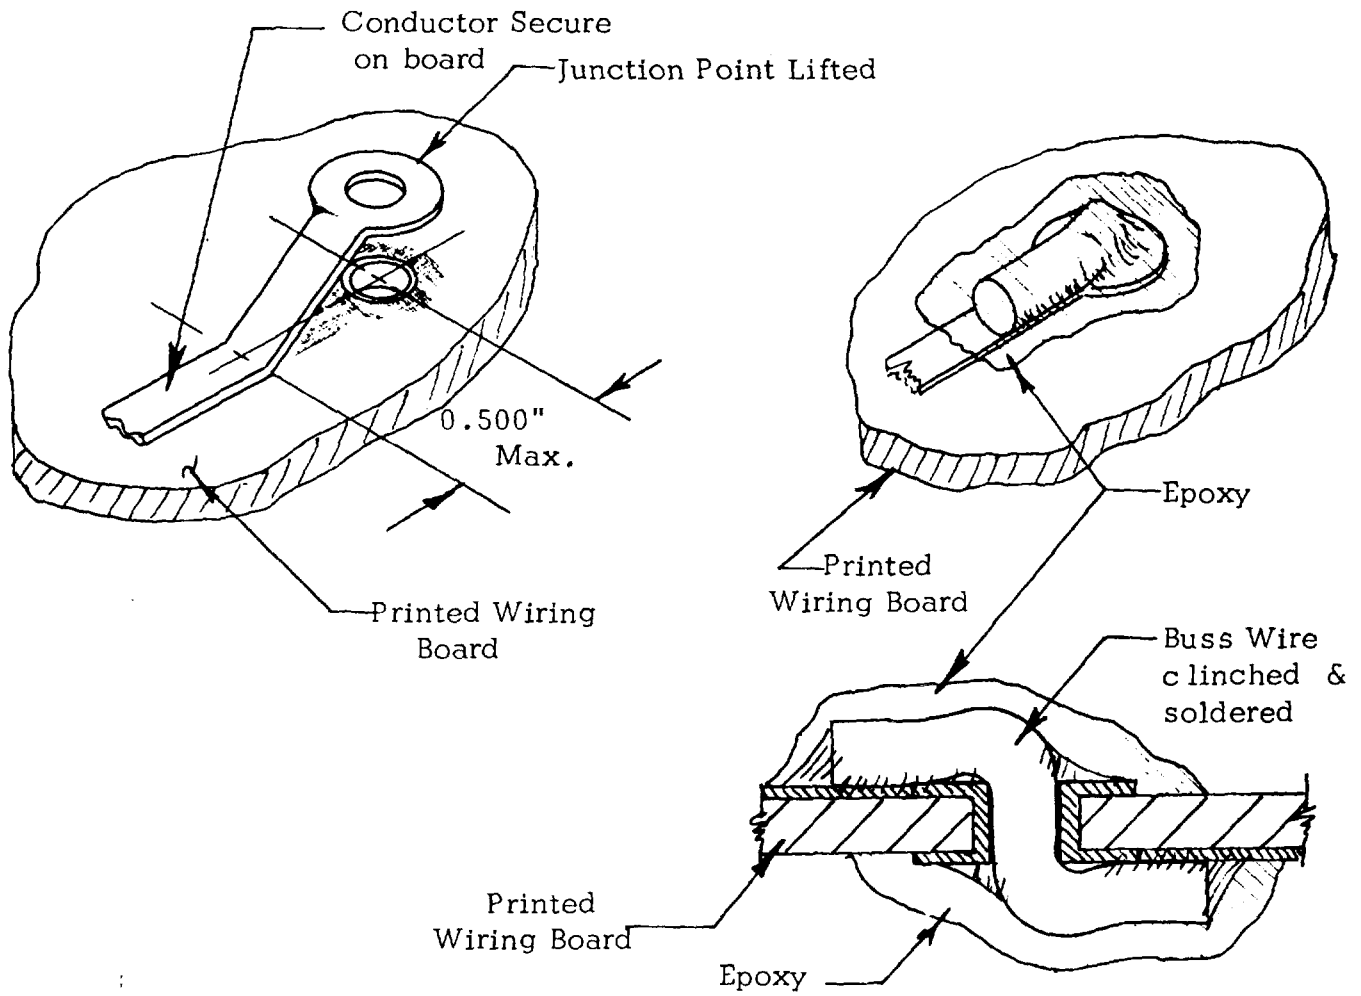

**Figure 3-9. Repair of Broken or Damaged Circuitry Where Repaired Area is Greater than 1/2 Inch and Where a Jumper is Attached to Component Lead**
2. Wrap lead with a minimum 1800 wrap. Trim back component lead and excess jumper wire to clear board height requirements. (See figure 3-9.)